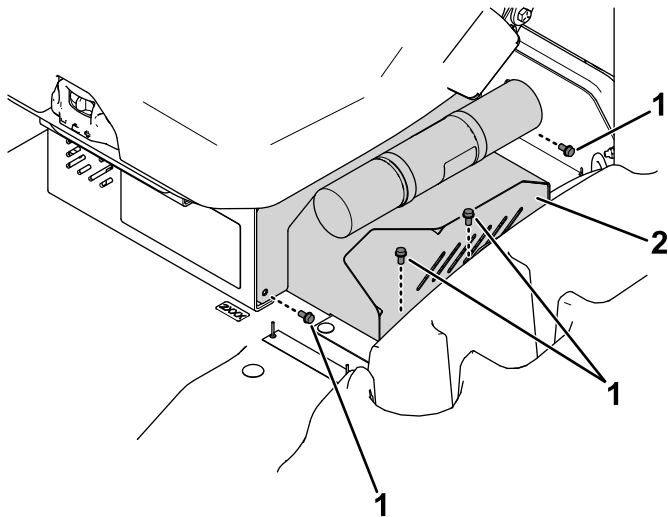

Figure 14
2. Remove the charger-cable cover (Figure 14).
3. Install the charger-cable cover (Figure 14).